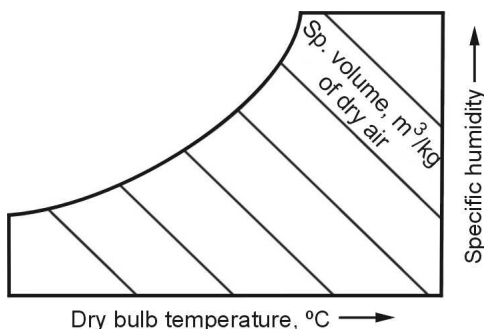

Fig. 5.63 : Specific column lines
- These lines are obliquely inclined straight lines and uniformly spaced as shown in Fig. 5.63.